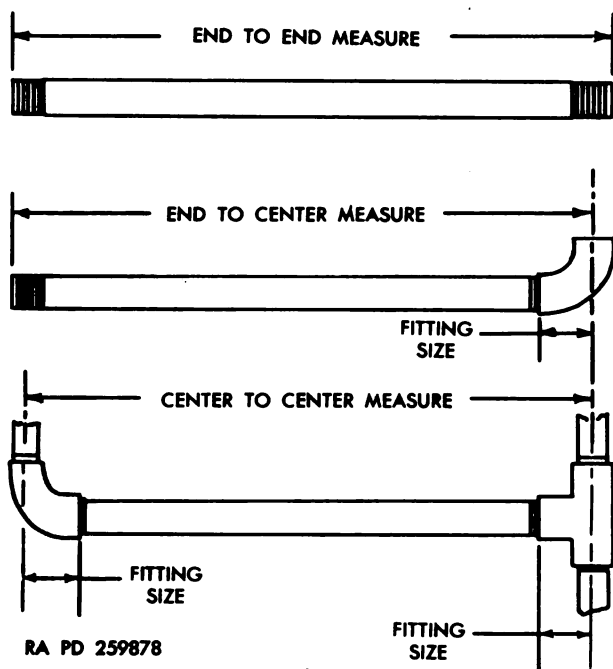

Figure 257. Measuring threaded pipe.
a. Measuring Threaded Pipe. Before you cut pipe, make certain the required correct length is determined. There are three methods of measuring threaded pipe, and you must understand these methods if the pipe is to be cut to the correct lengths (fig. 257).
- (3) *Center-to-center method.* This measurement is used when both ends of a pipe have fittings. Measure from center of one fitting to center of the other fitting at opposite end of pipe.
- (4) *Approximate thread lengths.* The approximate length of thread on $\frac{1}{2}$ - and $\frac{3}{4}$ -inch wrought iron or steel pipe is $\frac{3}{4}$ inch. On 1-, $1\frac{1}{4}$ -, and $1\frac{1}{2}$ -inch pipe, it is approximately 1 inch long. On 2- and $2\frac{1}{2}$ -inch pipe, the length of thread is $1\frac{1}{8}$ and $1\frac{1}{2}$ inches respectively.
- (5) *Determine pipe length.* To determine length of pipe required, compute as outlined in (a) through (d) below.
- (a) Take measurement of installation such as center to center of pipe, requiring two fitting ((3) above).
- (b) Measure size of fitting or fittings as shown in figure 257.
- (d) Multiply approximate thread length ((4) above) by 2 and add result